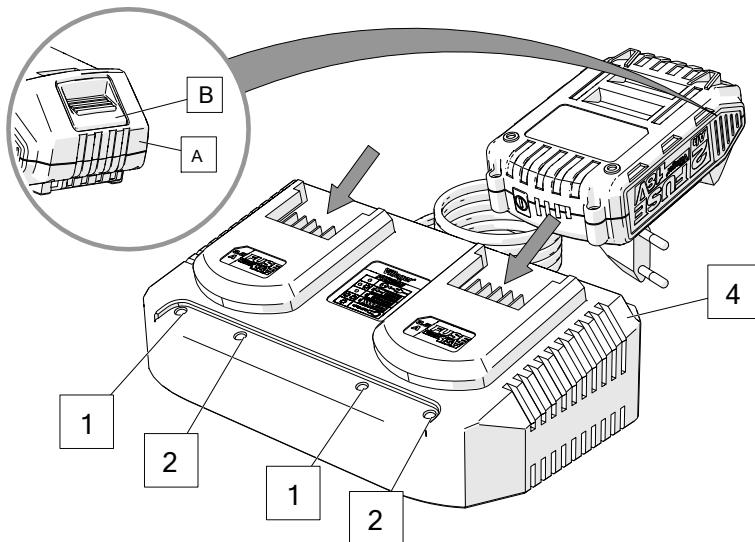

Fig. 1
BATTERY PACK CHARGING FIGS. 1
To charge the battery pack (A), it must first be FIG.1 removed from the tool.
- Press the battery release button (B) and gently slide the battery pack off (Fig.1).
- Plug the battery charger (4) unit into a 230V/AC supply socket.
- Both the red LED's (1) will illuminate to show the charger has power.
- After a few seconds delay, one of the green LED's (2) (on the side battery is placed) will also illuminate to show that charging has begun and continue throughout charging.